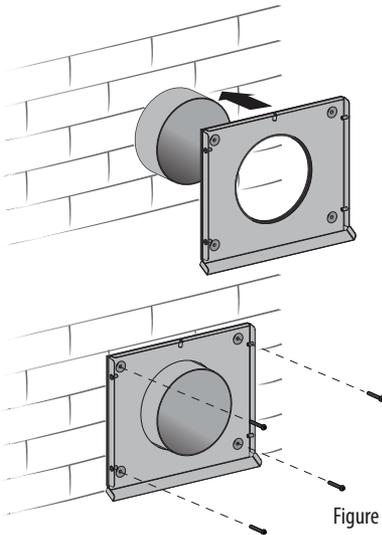

Figure 11
11. Fix the back part of the exterior-mounted hood on the wall with the brass screws (Figure 11).